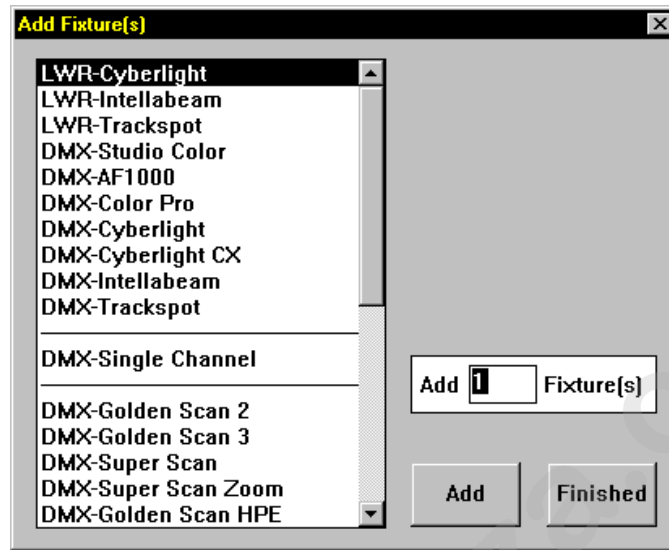

Figure 4.3. Add Fixture(s) Dialogue Box
2. Click the **Add** button in the **Fixture Setup** dialogue box to bring up the **Add Fixture(s)** dialogue box. Refer to Figure 4.3.